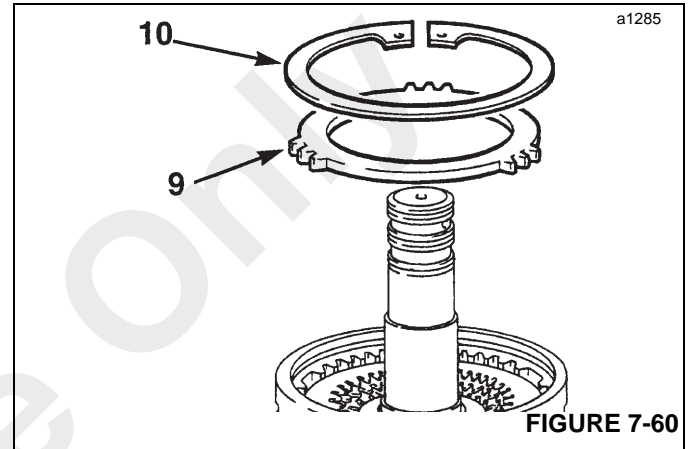

FIGURE 7-60
9. On earlier clutch housing, install the pressure (end) plate (9, Figure 7-60). Make sure that the prongs on the pressure plates DO NOT locate in the larger grooves in the hubs (the ones with drilled holes).